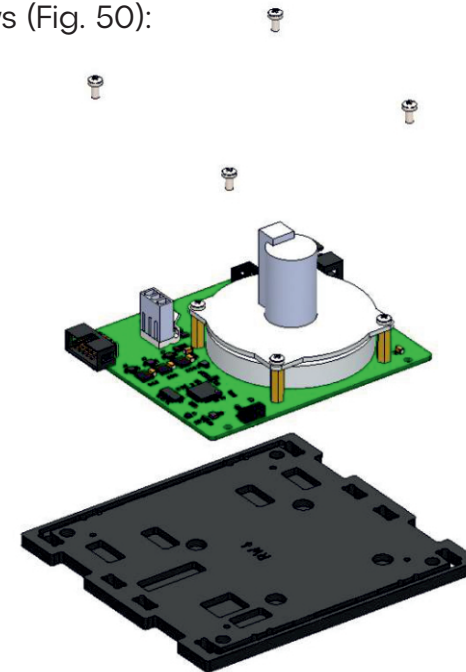

Fig. 50: Mounting the RW circuit board
1) Place the RW board on the bottom base plate (marked as “RW↓”), then secure the board with four M3x6 cylindrical-head screws (Fig. 50):